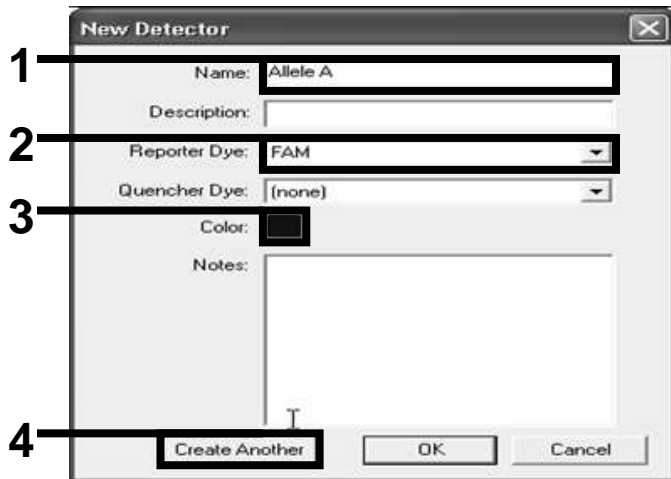

Figure 15. Creating detectors.
16. In the "New Detector" dialog box, type *Allele A* in the "Name" field (Figure 15). Leave the "Reporter Dye" set to "FAM". Click the "Color" button, select a color, and then click "OK" (Figure 15). Click "Create Another" (Figure 15).